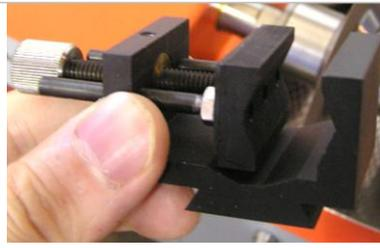

Fig. 3b
- (1) Optional mini vise (P/N LSS011) is used for cutting rod sample up to 1" diameter
- (2) Open the jaw of the vise for holding rod sample (Fig. 3b)